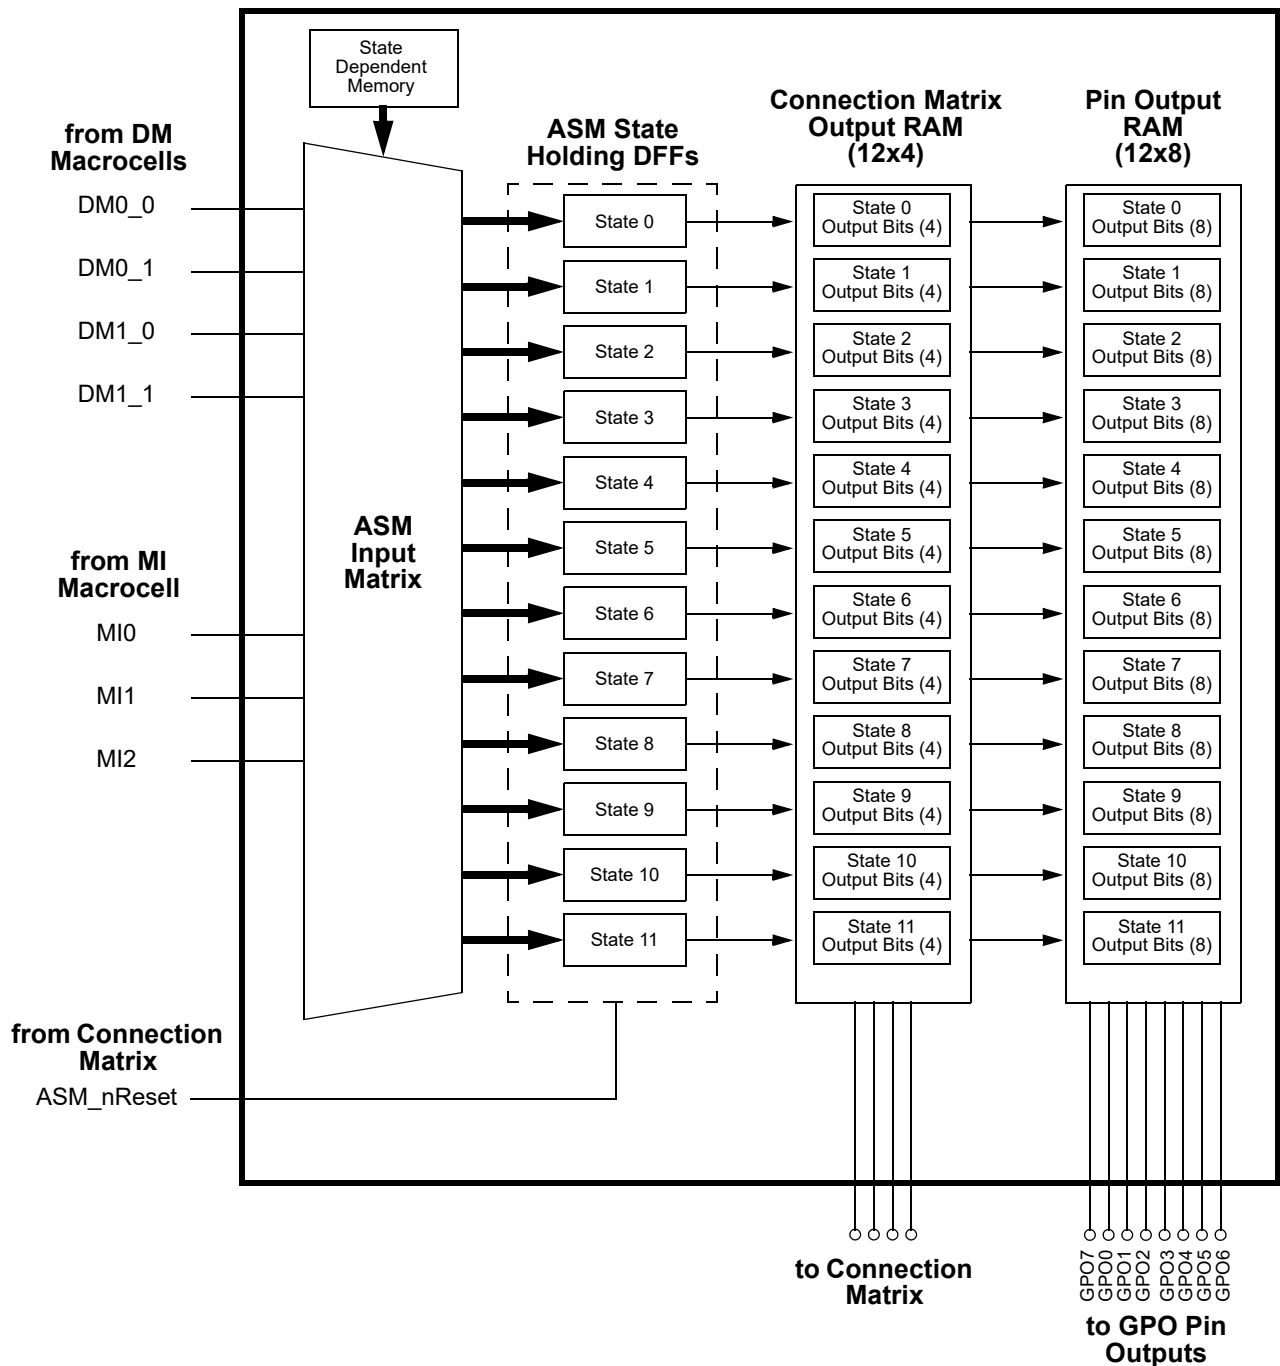

Figure 110: 12 State ASM Macrocell
The ASM macrocell has a total of 8 input signal lines, as shown in Figure 110, which come from a combination of three Matrix Interface (MI) macrocell outputs and DM macrocell outputs. Of these 8 inputs, 3 are user selectable inputs coming from the three Matrix Interface (MI) macrocells (one per macrocell) to the ASM macrocell. There are also 4 inputs that come from the DMx_x macrocells (one per macrocell). There is 1 ASM_nReset input that is for driving a state transition in the ASM macrocell to a user defined Initial/Reset state.
The GPAK Designer development tools support user designs for the ASM macrocell at both the physical level and logic level. Figure 110 is a representation of the user design at the logical level, and Figure 110 shows the physical resources inside the various macrocells in the ASM Subsystem. To best utilize this subsystem, the user must develop a logical representation of their desired state machine, as well as a physical mapping of the input and outputs required for the desired functionality.
The ASM macrocell has a total of 8 input signal lines, as shown in Figure 110, which come from a combination of Connection Matrix outputs and DM macrocell outputs.